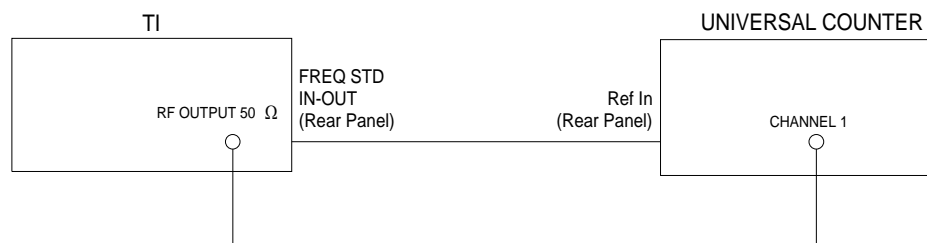

Figure 1.
4.1.6 Connect equipment as shown in Figure 1. Set the Universal Counter resolution to 1 Hz.